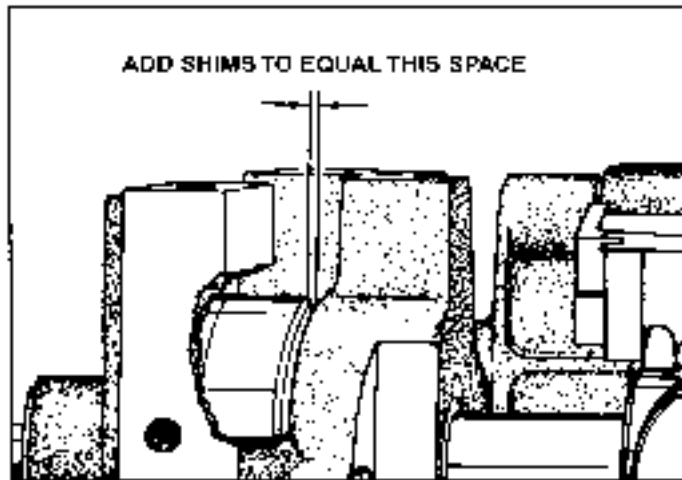

Fig 3
3) Measure the distance between the right side of the head of the mainshaft and the left side of the machine bed and add shims to equal this measurement. (fig 3) This will help to keep the shafts, take-up and connecting rods in their proper position.
4) Holding the shafts in position with the shims as indicated in Fig 3, move the pump assembly **C** against the inside of the bearing housing **D** and tighten the 2 allens screws in the pump hub. Remove shims added in Fig 3.